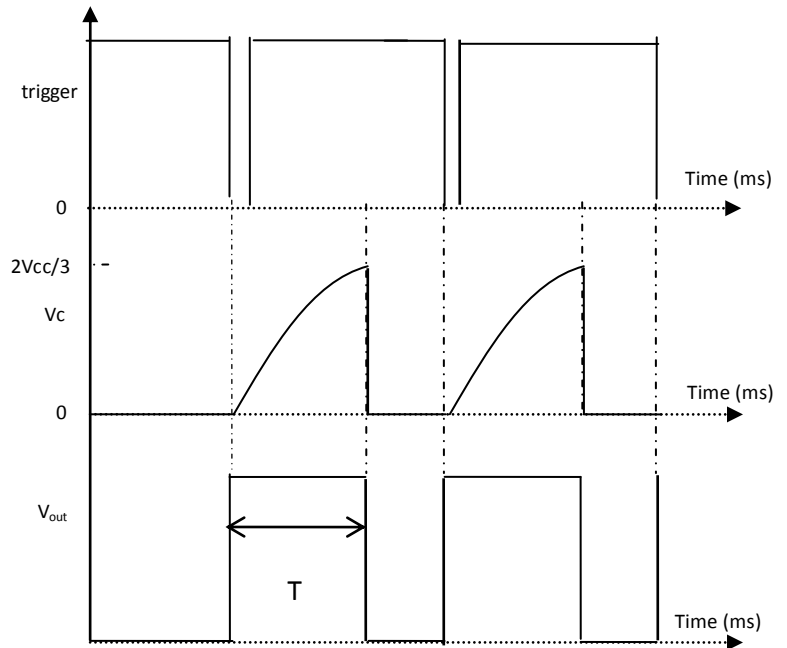

Fig. 9.3 Typical waveforms for monostable operation with IC 555
where T is the time period in seconds (s), R₁ is the resistance in ohms (Ω) and C₁ is the capacitance in farads (F). *The maximum reliable time period is about 10 minutes.* Fig.9.3 shows the typical waveforms of the trigger, the output voltage and the capacitor voltage.